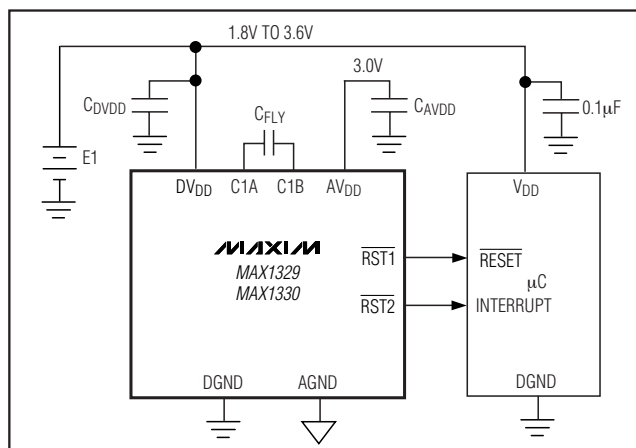

Figure 25. Power-Supply Circuit Using a Battery for DVDD and Internal Charge Pump Set to 3.0V for AVDD
Figure 25 shows DVDD is powered from a battery with the charge-pump output set to 3.0V. The charge pump can draw high peak currents from DVDD under maximum load. Select an appropriately sized bypass capacitor for DVDD ( $\geq 10$  times  $C_{FLY}$ ). Supply ripple can be reduced by increasing  $C_{AVDD}$  and/or the charge-pump clock frequency.
**Table 32. External Component Selection for 25mA Output Current and  $2V_{DVDD} - V_{AVDD} \geq 0.4V$  (Figure 25)**